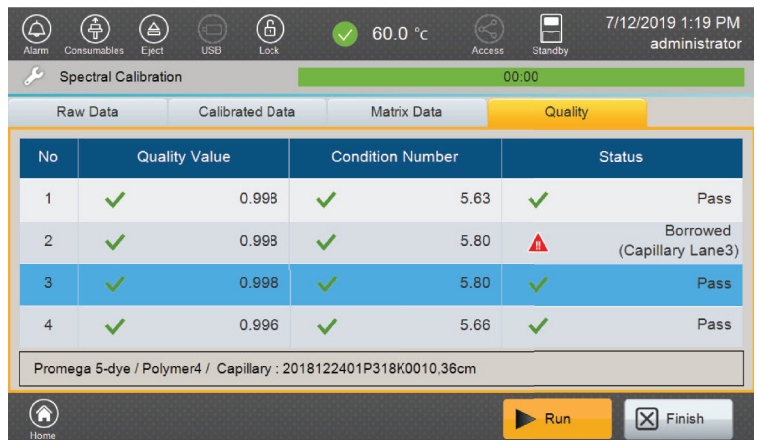

Figure 52. Borrowed capillary quality data.
- The quality value and condition number from the borrowed capillary will now be displayed in the row for the previously failed capillary, and the status of that capillary will update to "Borrowed" with the number of the borrowed capillary indicated (Figure 52).